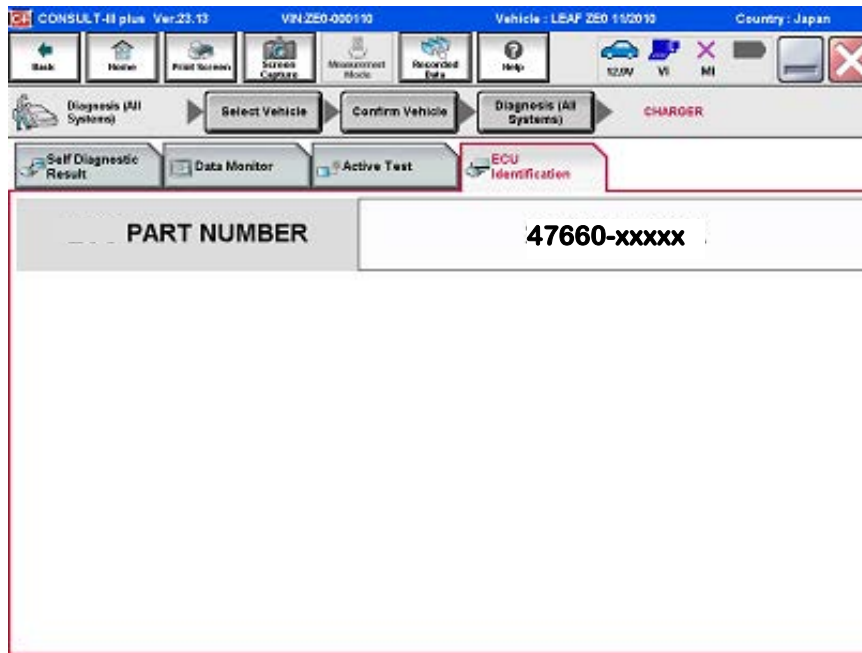

Figure 5
8. When you get to the screen shown in Figure 5, confirm this bulletin applies as follows: